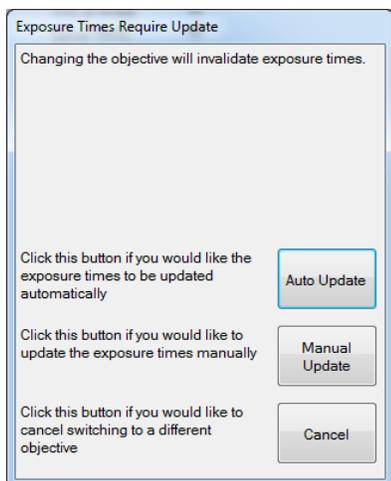

Figure 44. Warning window appears if you change the pixel resolution.
7. If the Multispectral Regions resolution is changed, the same **Exposure Times Require Update** box shown in Figure 44 will appear and you will be required to choose how to adjust the exposure times.